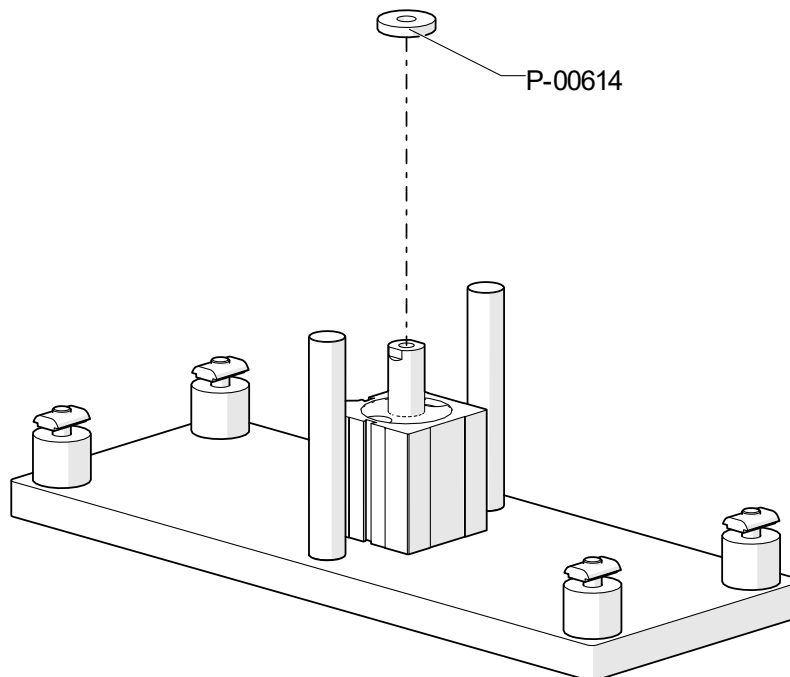

Figure 13: Removing Air Cylinder P-00614 Washer
Step 1: Remove Top M8 SHCS shown in Figure 13.